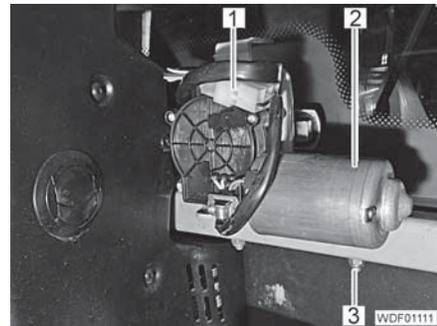

Fig. 392 Windshield wiper motor attachment
- Unscrew the 2 nuts (Fig. 392,3).
- Remove the windshield wiper motor (Fig. 392,2), pivot it to one side and fix it temporarily (e.g. using a strap).
- Position the windshield wiper motor (Fig. 392,2).
- Screw the 2 nuts (Fig. 392,3) onto the screws and tighten.